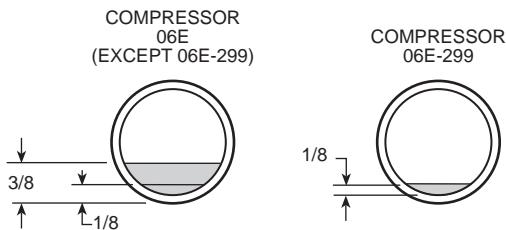

Fig. 44 — Operating Oil Levels (Sight Glass)
8. Oil should be visible in the compressor sight glasses. See Fig. 44. An acceptable oil level in the compressor is from $\frac{3}{8}$ to $\frac{1}{2}$ of sight glass (06E-299 compressors are $\frac{1}{8}$ of sight glass). Adjust the oil level as required. No oil should be removed unless the crankcase heater has been energized for at least 24 hours. Oil Charge section on page 49 for Carrier-approved oils.
Compressor Oil — Check that compressor oil is visible in the sight glass of the compressor. All units are factory charged with oil. See Table 3. Observe oil level closely at start-up. If oil level is below the sight glass and cannot be seen, add oil until the level is approximately $\frac{3}{8}$ to $\frac{1}{8}$ of sight glass (06E-299 compressors are $\frac{1}{8}$ of sight glass). See Fig. 44. See Oil Charge section on page 49 for information on adding or removing oil.